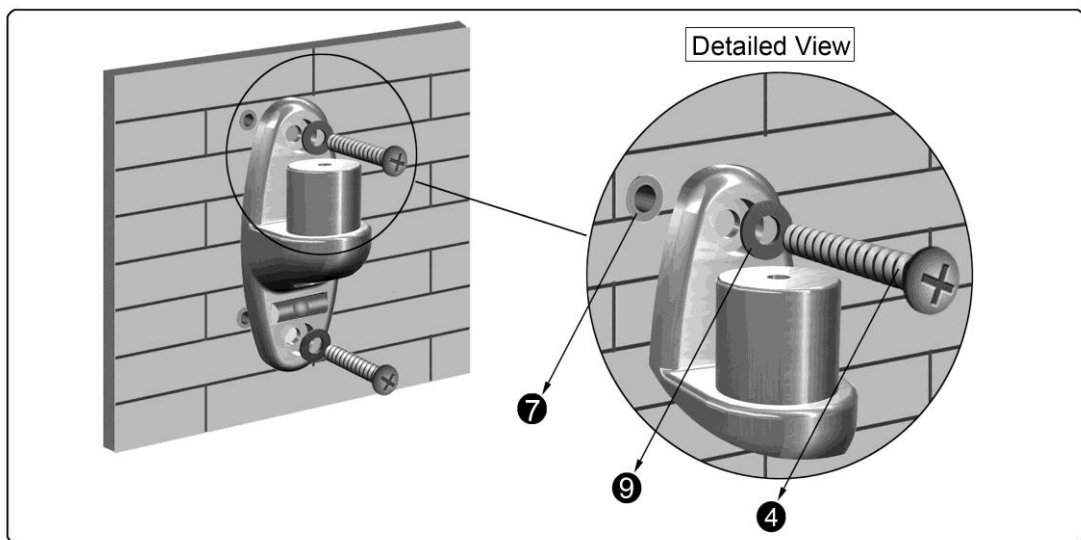

Figure 1-9
4. Insert the Philips Screw ST6.3x65mm (4) through the Washer (9), Wall Plate (3) and into the Anchor (7). Securely tighten the screws with a Philips screwdriver. Do not over tighten (See Figure 1-9).